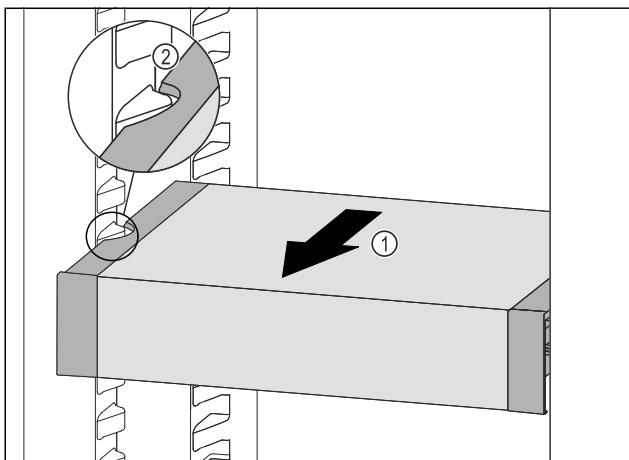

Fig. 92
- ▶ Pull VarioSafe forwards Fig. 92 (1) until the recesses in the side of the VarioSafe are at the level of the support rib in the fridge section. Fig. 92 (2)